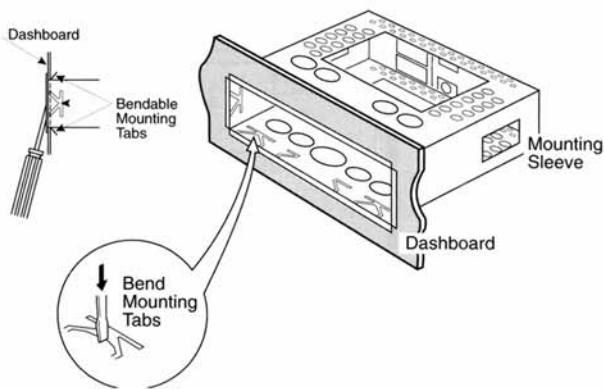

Figure 28. Securing the Mounting Sleeve.
- Secure the mounting sleeve to the dashboard by bending the flanges 90 degrees. If necessary, use a screwdriver and/or pair of needle nose pliers (see Figure 28). Be careful not to scratch the dashboard when bending the flanges.